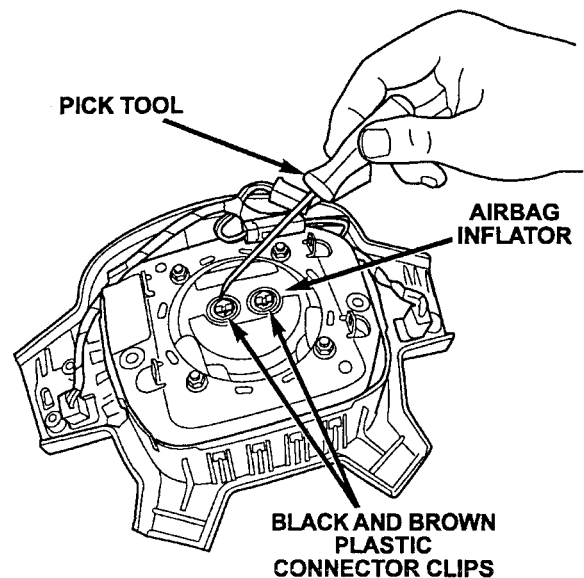

Figure 4
7. Using a small pick tool, remove and discard the black and the brown plastic connector clips from the airbag inflator wiring connectors (Figure 4).